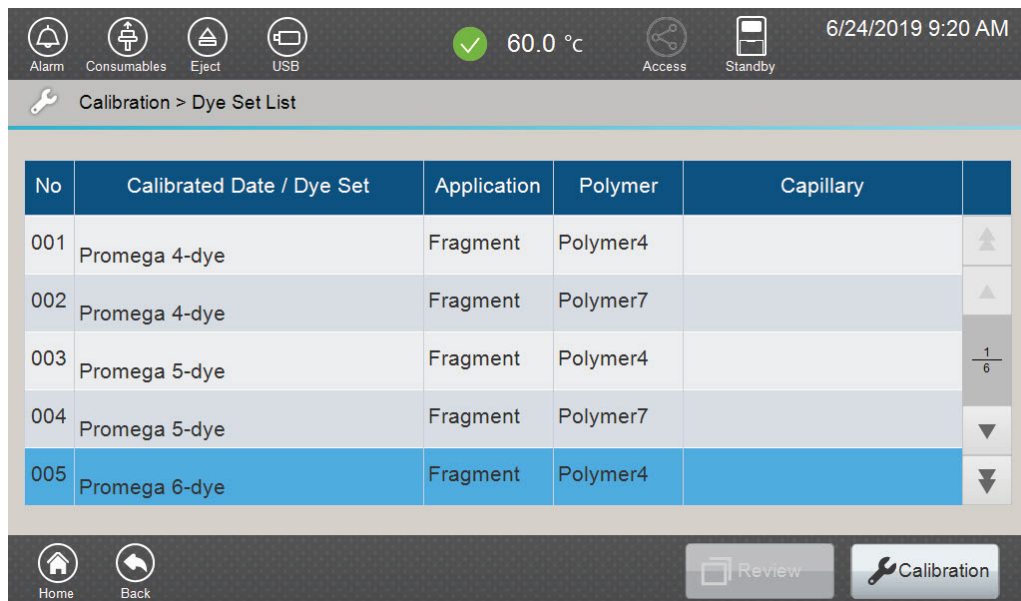
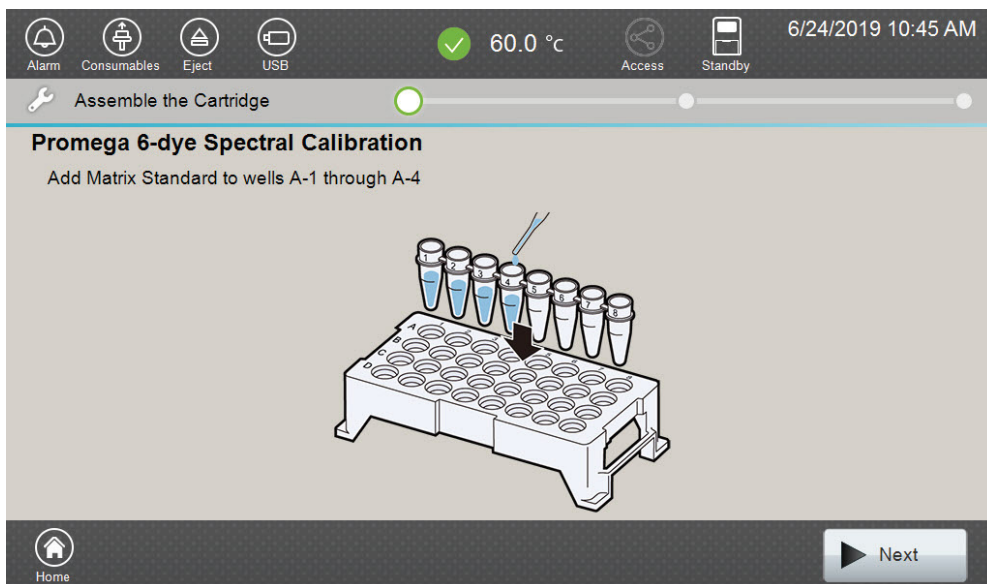

Figure 20. 'Dye Set List' screen.
Figure 21. 'Assemble the Cartridge' screen.
4. Use the scroll arrows on the right-hand side of the 'Dye Set List' screen (Figure 20) to find the correct Dye Set/Application Type/Polymer combination from the displayed list. To perform a spectral calibration using the PowerPlex® 6C Matrix Standard on Polymer4, select **Promega 6-dye** with "Fragment" and "Polymer4" as application and polymer types, respectively, then select **Calibration**. The 'Assemble the Cartridge' screen will open (Figure 21).
5. Select **Next** on the 'Assemble the Cartridge' screen (Figure 21). A message window will open indicating that the autosampler is moving and telling the user to not open the door. In addition, the status indicator flashes green while the autosampler is moving. After autosampler movement is complete, the message window closes and the status indicator returns to a steady green.